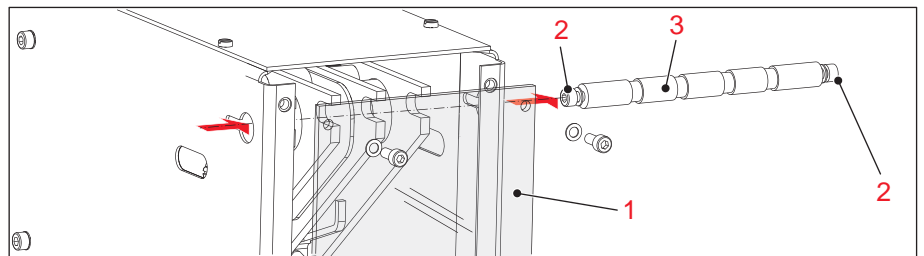

Figure 26
2. Dismount the inspection window (1).
3. Release the two Allen screws (2) and move the front bearing bolt (3) first slightly to the front and then pull it out laterally, see **Figure 26**.